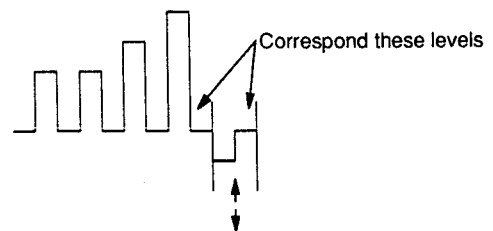

Fig. 8
6. Adjust L107 until suitable for white and black part of TP10 waveform become at 0 – level. (Fig. 8)